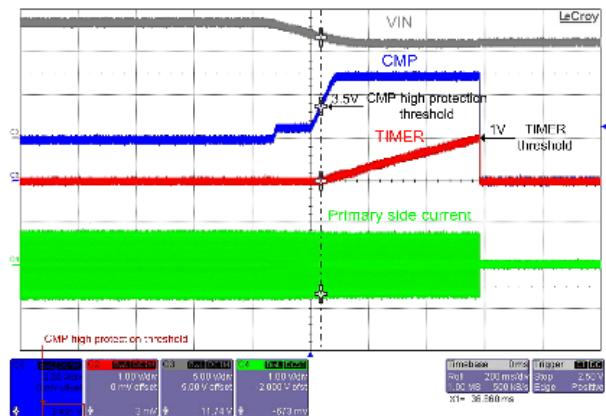

Figure 60. CMP-High Protection
**CMP-High Protection:** If CMP is more than 3.5V for a time predetermined by the TIMER pin capacitor and a internal current source of 50 $\mu$ A in normal mode, the IC is shut down, as shown in Figure 60.